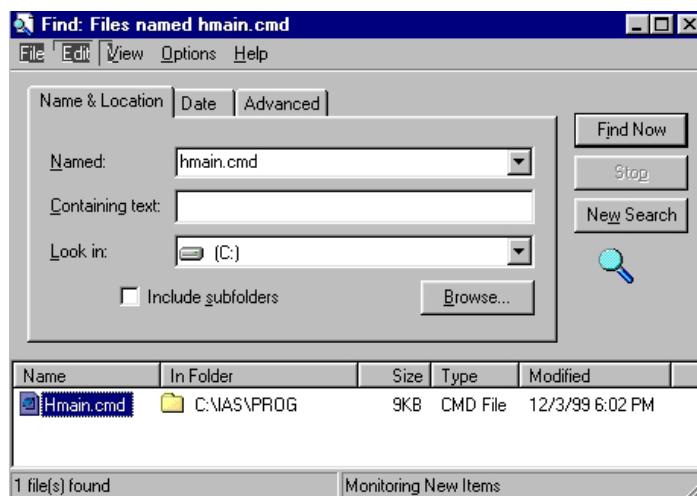

Figure 3-113
4. Once the file is located highlight the file by single clicking on it. (Figure 3-113) Insert a formatted 1.44mb floppy into drive **"A"**. Right click on the **"\*.CMD"** file and use the **"Send to 3½ Floppy"** to copy the file to the floppy diskette. Once the file has been copied to the floppy return to the **"Find File"** command and double click on the HMAIN.CMD file to open the file up in notepad.